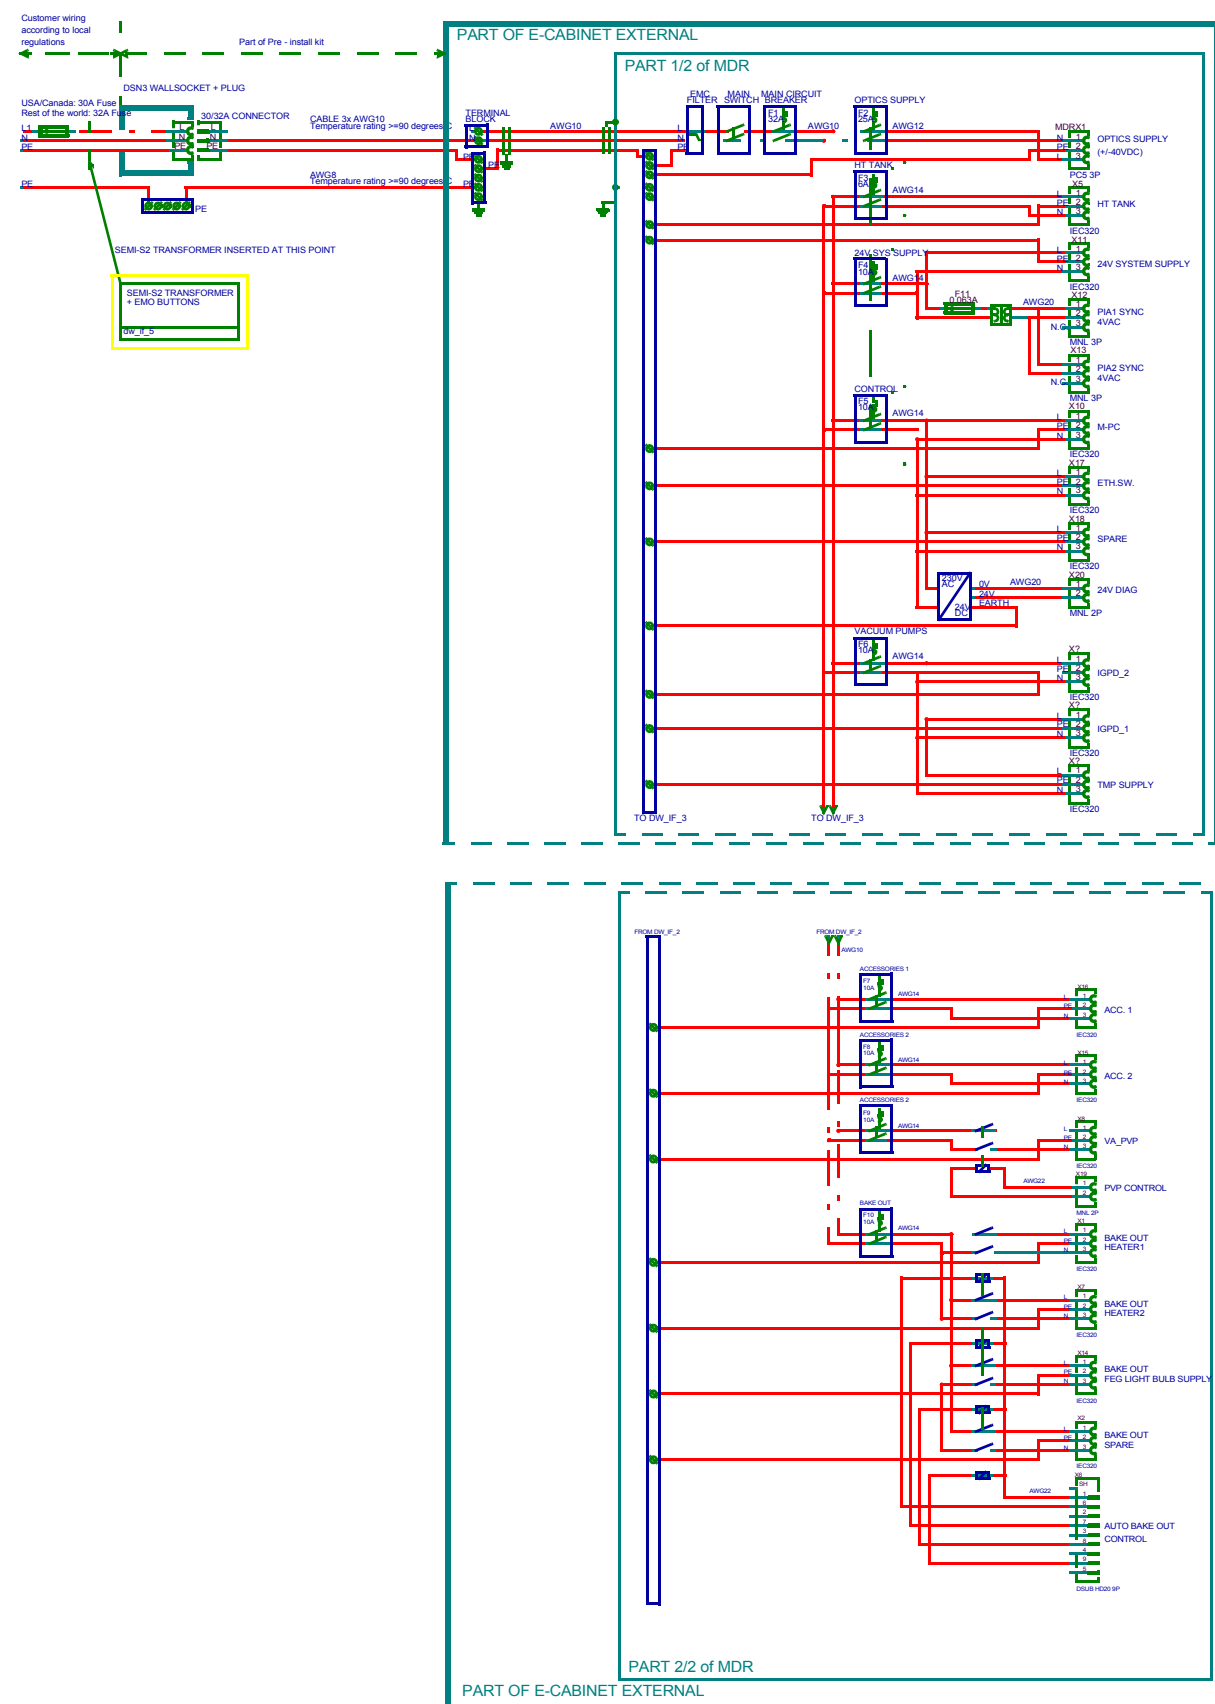

Figure 14: Electrical connections
4. Connect the cable to the facility electrical supply Figure 14. In case of SEMI S2 kit, connect the mains cable to SEMI S2 safety transformer as described in 6.4.3 “SEMI S2 safety transformer \(for SEMI S2 only\)”